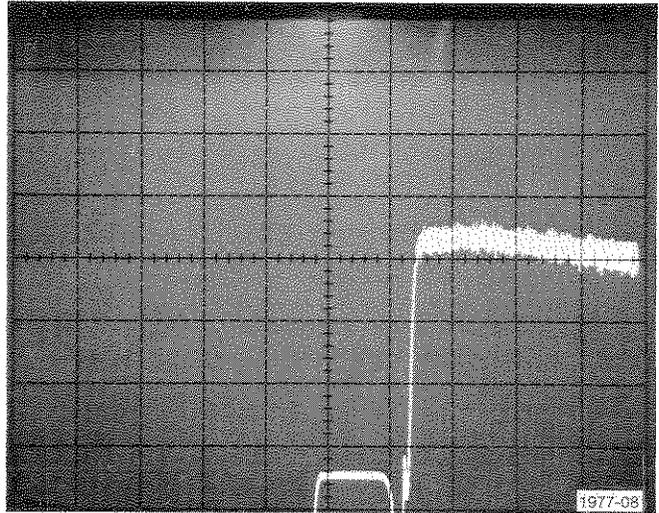

Fig. A-8. Display of power supply rejection ratio.
- Calculate the power supply rejection ratio (PSRR, see Fig. A-8). PSRR is power supply voltage swing (horizontal deflection) divided by the change in input voltage due to power supply variation (vertical deflection).